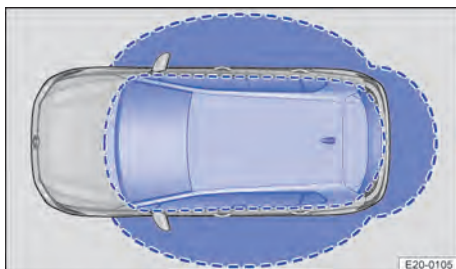

Fig. 56 Keyless Entry: operating ranges.
1. The vehicle will be unlocked if the vehicle key is detected in the operating range → Fig. 56. All direction indicators flash twice.